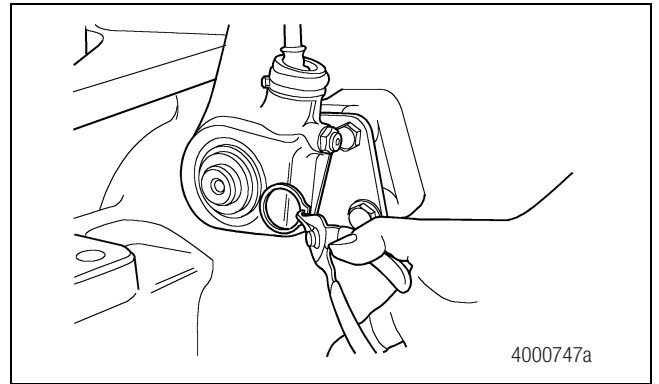

Figure 4.20
3. Remove the slack adjuster retaining ring at the adjuster end of the camshaft. Figure 4.20.